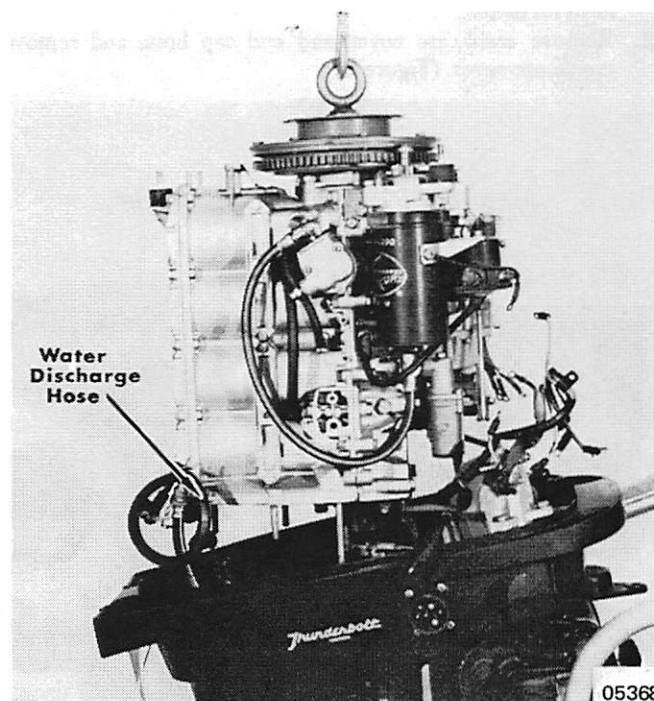

Figure 3. Lifting Powerhead
11. Using a suitable hoist, lift powerhead (Figure 3) and place it on powerhead stand.